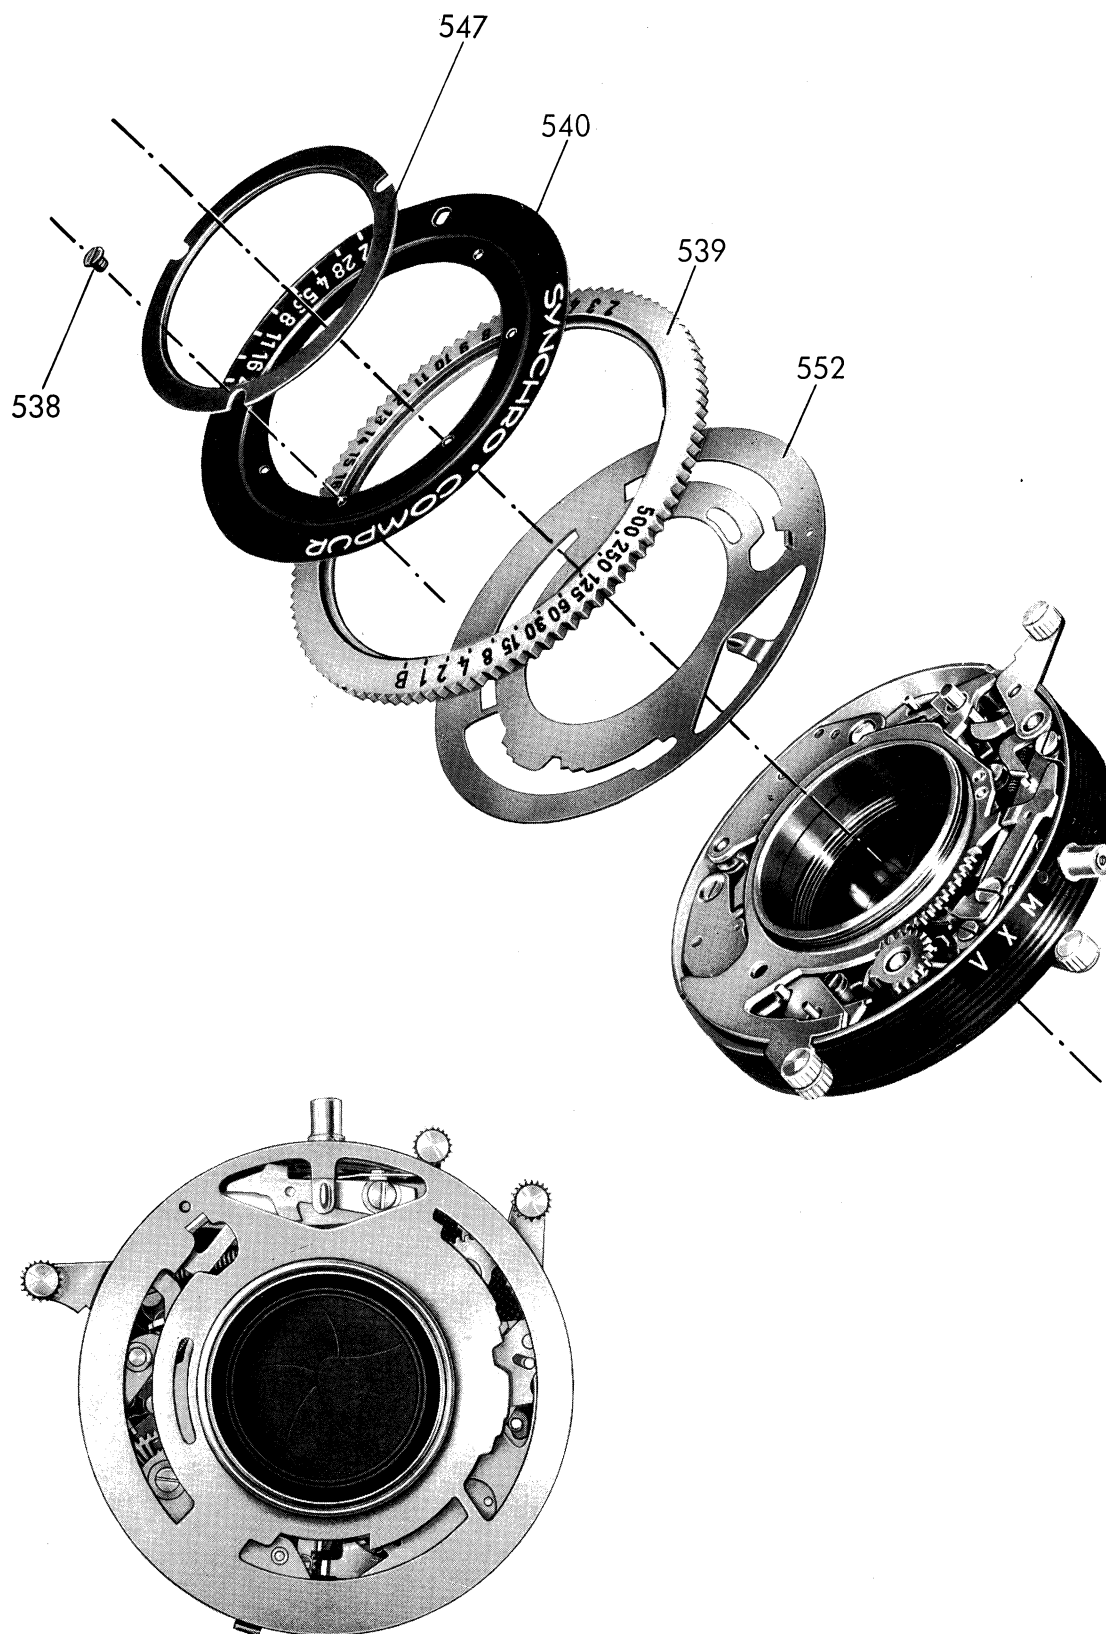

Figure 3-1
The following describes the function of the cocking procedure. Refer to the Figures 3-1 through 3-10. These diagrams show the physical location of the components and the component part number.
This section contains disassembly procedures for the 1110 Shutter for the Rollei camera. Figures 3-1 through 3-9 help in determining disassembly sequence and malfunction.
This section lists procedures, in the proper numerical order, for assembling the Compur shutter. Before attempting the reassembly process, check each component carefully for thorough cleansing, lubricating, and possible defect. All replaceable component parts are listed in Section 8. Paragraph 5-3 of this section gives detailed instructions for properly adjusting various individual components at the time of reassembly. Refer to Figures 3-1 through 3-8 to identify the components, the component number and proper placement of the components during reassembly.
- A. EXPOSURE SETTING RING: Adjust the exposure setting ring for smooth operation by tightening the threaded ring 547 finger tight. After this adjustment is completed, use the retaining screws 538 to lock the threaded ring at the nearest possible point. See Figure 3-1.